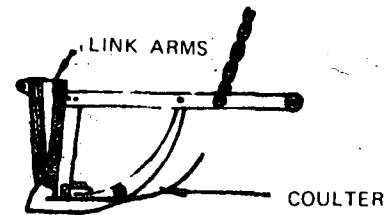

Fig. 7
**COULTERS.** These furrow openers may be of the fixed or rotary type. The fixed type include the hoe coulters, the mouldboard and the suffolk (Fig. 7).